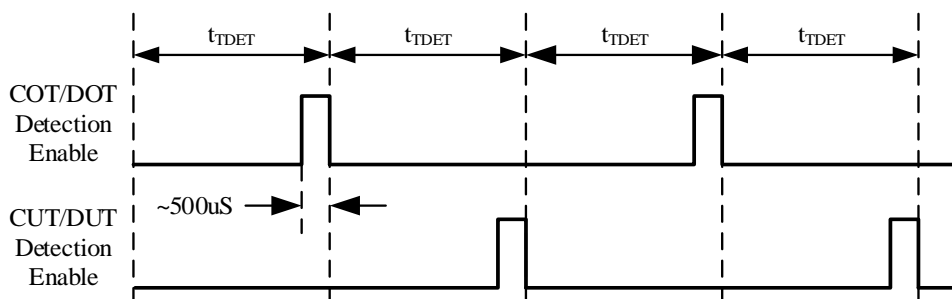
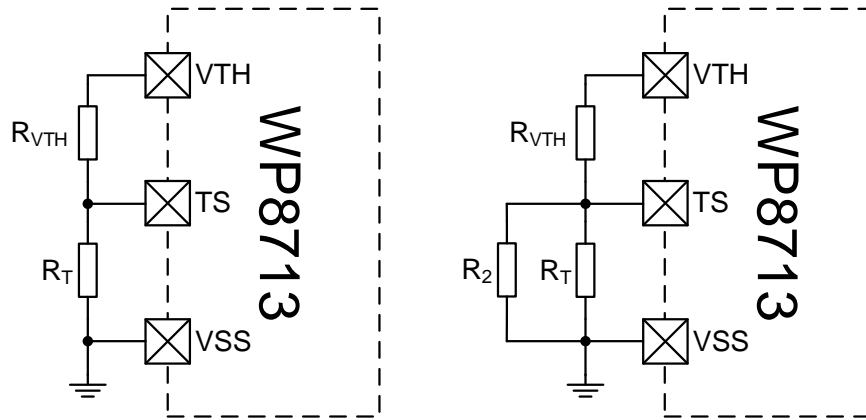

Figure1 Temperature Detection Timing
Figure2 (a) $R_{VTH} + R_T$ (b) $R_{VTH} + R_T || R_2$
- 1) For the figure 1 , figure 2 and figure 4, the application circuit: Remove charger makes VMON1 pin voltage higher than 0.1V.
In normal state, the WP8713 will do the temperature detection every t_{TDET} , see figure 1 for temperature detection timing chart.
As shown in figure 2 temperature protection IC can use $R_{VTH} + R_T$ or $R_{VTH} + R_T || R_2$.